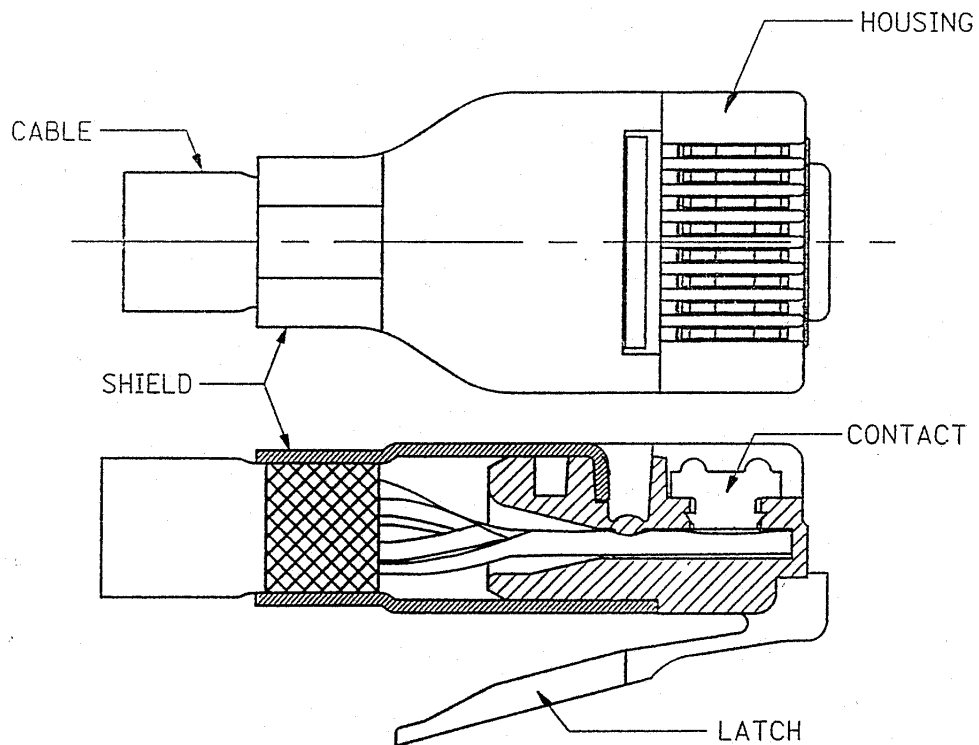
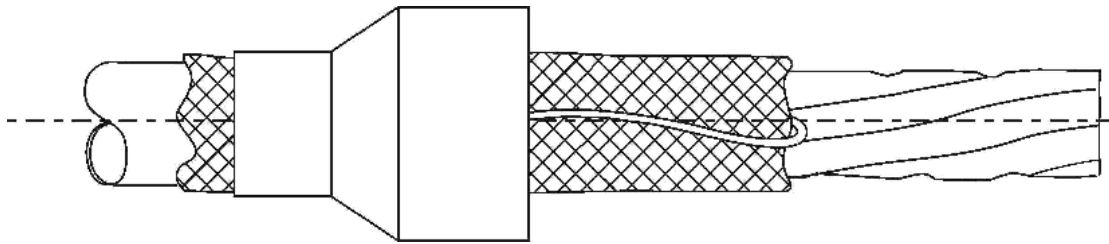

FIGURE 1
FIGURE 6
- C. Fold the cable shield (and the drain wire if present) back over the outer jacket as shown in figure 6. Then slide the shield onto the cable shield (refer to figure 1 for proper orientation). Take care that the shield remains on the cable shield.